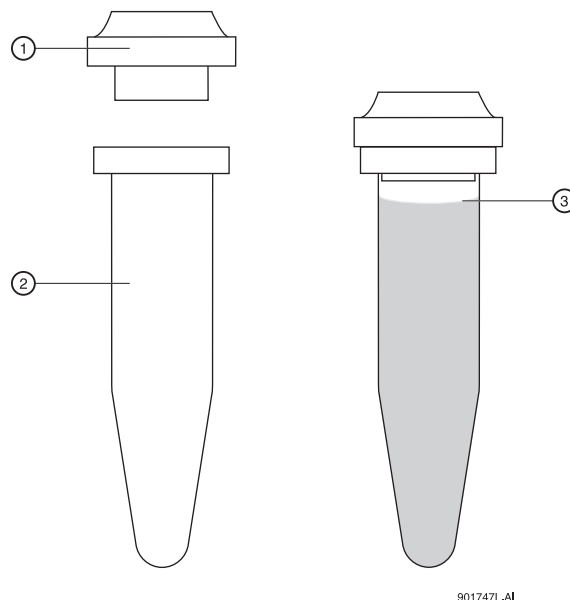

Figure 4.16 Filling 0.5 mL Vials
3. Put the vial cap on the vial as shown in Figure 4.16, then press it in place.